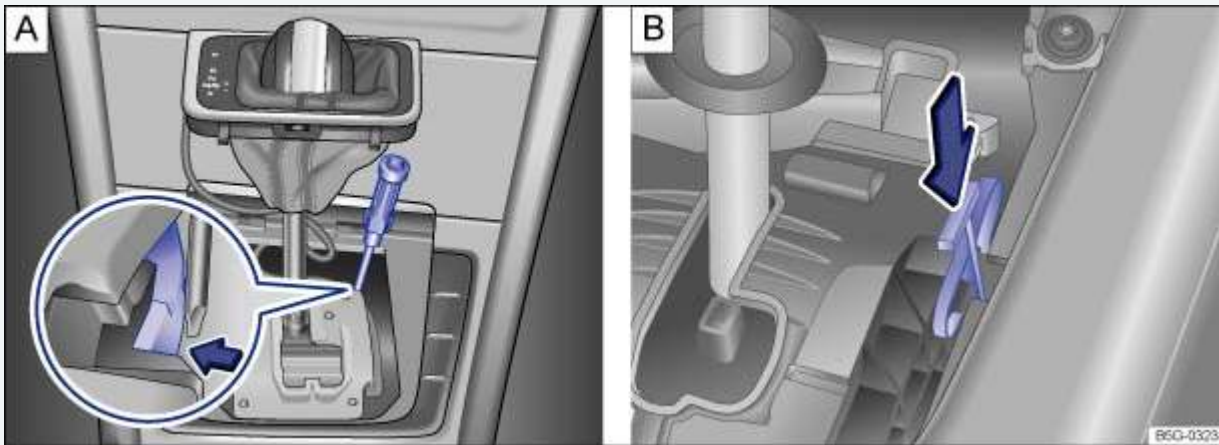

Fig. 215 Releasing the selector lever lock (versions and ).
- With the screwdriver from the vehicle tool kit, carefully push the colored release lever ⇒ *Fig. 215*  in the direction of the arrow and hold it in this position.
- Press the release button in the selector lever handle and shift the selector lever to Neutral (N).
- Using the flat blade of the screwdriver from the vehicle tool kit, carefully push down on the middle of the colored release lever ⇒ *Fig. 215*  in the direction of the arrow and hold it in this position.